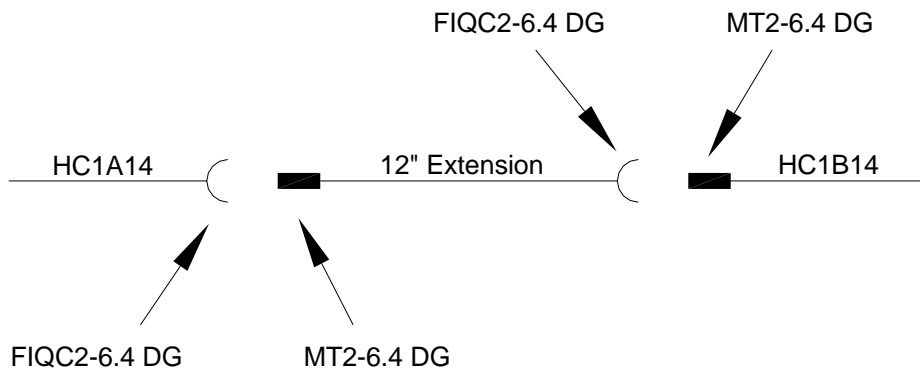

Figure 4
- 2.3. Cut a length of 14 AWG wire (M22759/16-6-9) to 12". Using male and female lug terminals insert the 12" length of wire in between circuits HC1A14 and HC1B14 as shown in Figure 4. The connections are to be covered in heat shrink tubing. Refer to the Parts table for terminal part numbers.